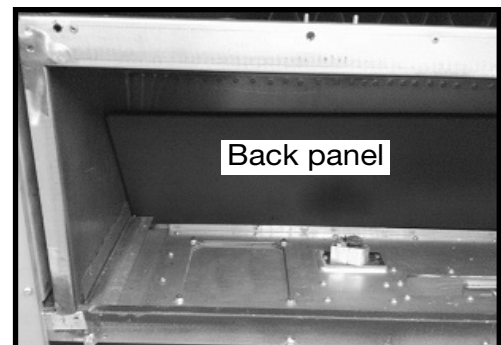

Figure 42: Back panel.
1. Insert back panel (1) so that it is sitting on ledge at the back of the firebox as shown in Figure 42.